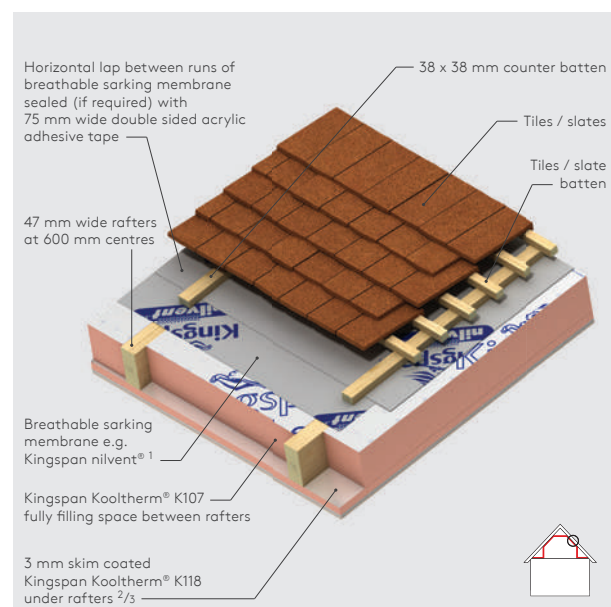

Figure 1a
NB When calculating U-values to BS / I.S. EN ISO 6946: 2017, the type of mechanical fixing used may change the thickness of insulation required. The effect of fixings for Kingspan Kooltherm® K118 Insulated Plasterboard in the U-value calculations for Figures 1a, 1b, 1c, 1d, 2a, 2b, 4a & 4c is insignificant as the insulation layer penetrated is not the main insulation layer. The U-value calculations for Figures 3a & 3b assume that over rafter layers of insulation are fixed using stainless steel fixings with a cross sectional area 7.9 mm2, with 3.7 fasteners per m2 (insulant thickness 0-40 mm), 6.2 per m2 (insulant thickness 41-60 mm), 8.3 per m2 (insulant thickness 61-80 mm) and 10.0 per m2 (insulant thickness 81-100 mm). The U-value calculations for Figures 3a & 3b also assume that over rafter layers of insulation are fixed using stainless steel fixings with a cross sectional area 9.1 mm2, with 11.1 fasteners per m2 (insulant thickness 101-125 mm). Please contact the Kingspan Insulation Technical Service Department (see rear cover for details) for project calculations.
- 1 In Figures 1a & 3a the breathable sarking membrane can be placed over the counter-battens, draped to provide for drainage and overlain with tile / slate battens. This will yield a marginally better U-value but it will be more difficult to seal the breathable sarking membrane effectively.